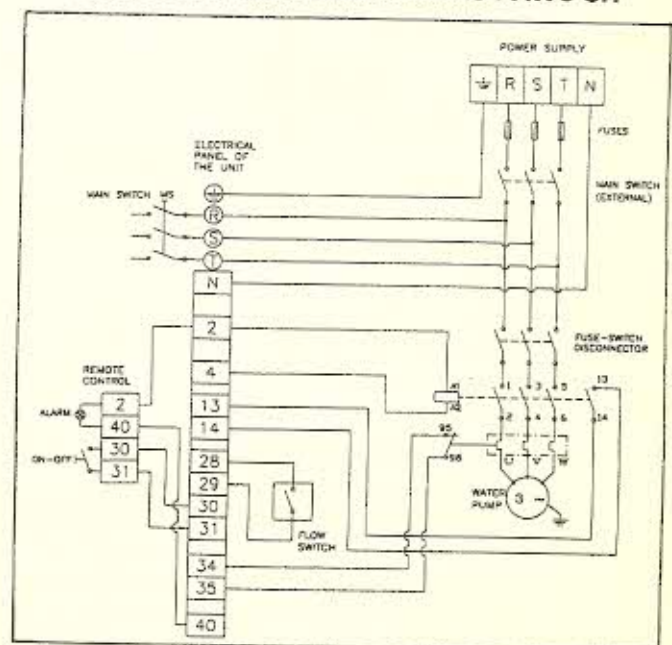

Figure 6 : Electrical Diagram (with Remote Control)
- Water pump, flow switch and remote control wiring according to the electrical connections diagram (Figure 6): Respective cable size : min . 0,75 mm².